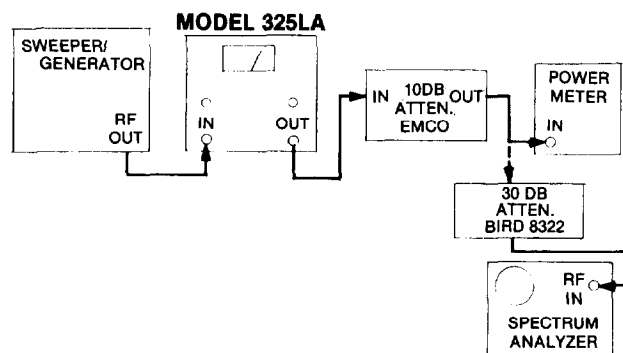

Figure 4-3. RF Output Distortion Test Set-Up
- a. Set-up the test equipment as shown in Figure 4-3